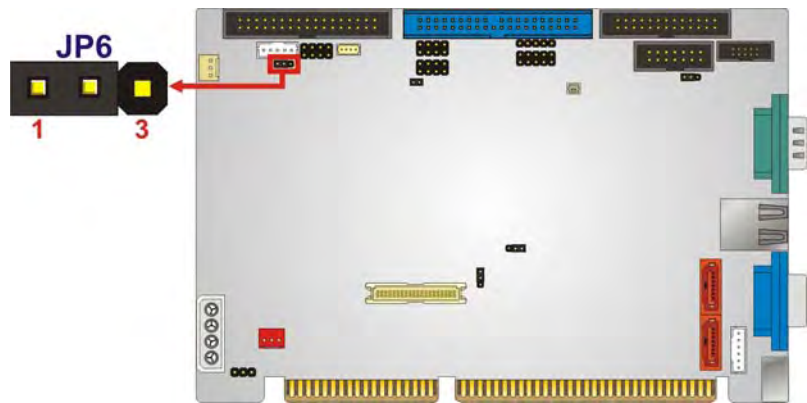

Figure 4-8: LCD Clock Select Jumper Location
- Jumper Location: See Figure 4-8